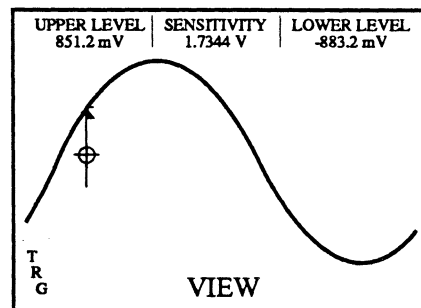

Figure 2 - View appears on the screen when the View mode is turned on.
Press the trigger View button to view the current trigger waveform and the Level/Sensitivity values (Figure 2). This allows you to select specific values that will allow the signal to qualify as a valid trigger. See the Level and Sensitivity Control descriptions on the following pages.
Note: Either TRG or ARM is displayed in the lower left corner of the screen if an Advanced Trigger mode is enabled (Figure 2). See Chapter 18.
1. Press the View button. The first 20% of the screen displays pre-trigger data to the left of the Trigger Marker (Figure 2). The other 80% of the screen displays post-trigger data to the right of the Trigger Marker. Use the Horiz Trigger Position button to select the amount of pre-trigger data. You can also alter the trigger Level and Sensitivity settings and read their actual values on the screen.